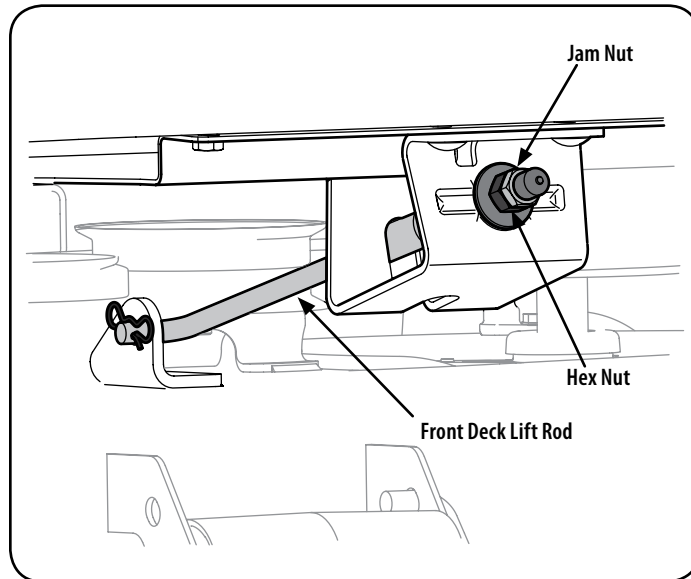

Figure 30
- Using a wrench, loosen the jam nut first, then raise or lower the front of deck by turning hex nut on the front deck lift rod. See Figure 30.